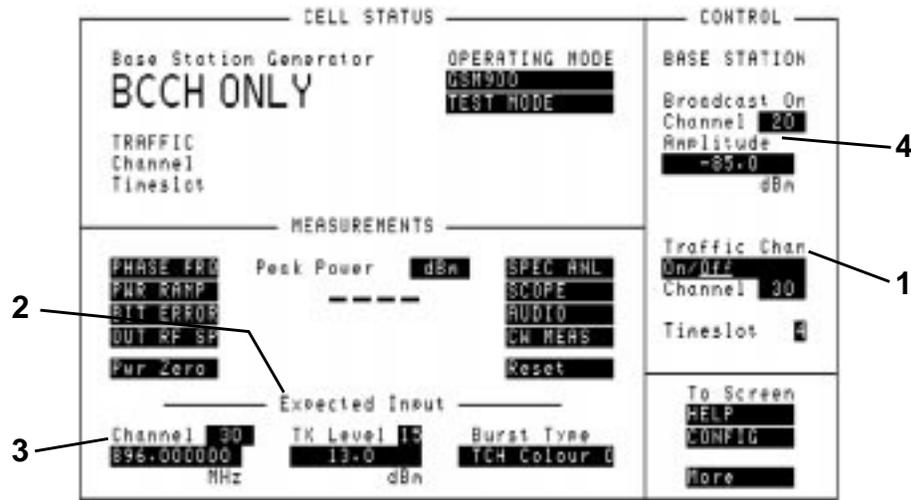

Figure 2-3 Test Mode
In Test Mode, these functions are now separated. The traffic channel transmitted by the Agilent 8922M/S is now controlled by the **Traffic Chan** parameters, (1), see Figure 2-3 on page 2-10. The mobile phone’s transmission must be controlled manually using the mobile phone manufacturer’s service and test modes. The Agilent 8922M/S measurements are controlled by the fields below **Expected Input**, (2), see Figure 2-3 on page 2-10.
- In the **Expected Input** area, (2), see Figure 2-3 on page 2-10, enter the GSM channel number of the signal to be measured. This will automatically update the input **Frequency** field below it, (3), see Figure 2-3 on page 2-10. If a frequency needs to be measured which does not correspond to a standard GSM channel, enter the non-standard value into the **Frequency** field. This value can be anywhere from 10 MHz to 1000 MHz. A direct entry in the **Frequency** field over-rides the frequency defined by the **Channel** field above.
It is possible to analyze the mobile phone’s response to the Agilent 8922M/S Broadcast Channel (BCH), by varying the BCH number and amplitude, (4), see Figure 2-3 on page 2-10. TEST MODE provides the Agilent 8922M/S with a “forced” traffic channel (TCH) generator which can be turned on and off without the need for any signaling or the presence of a mobile phone. A forced TCH can be generated on any channel in the GSM Base Station range and is enabled by the **On/Off** toggle field (1) below the Traffic Chan or the **ORG CALL** and **END CALL** keys.